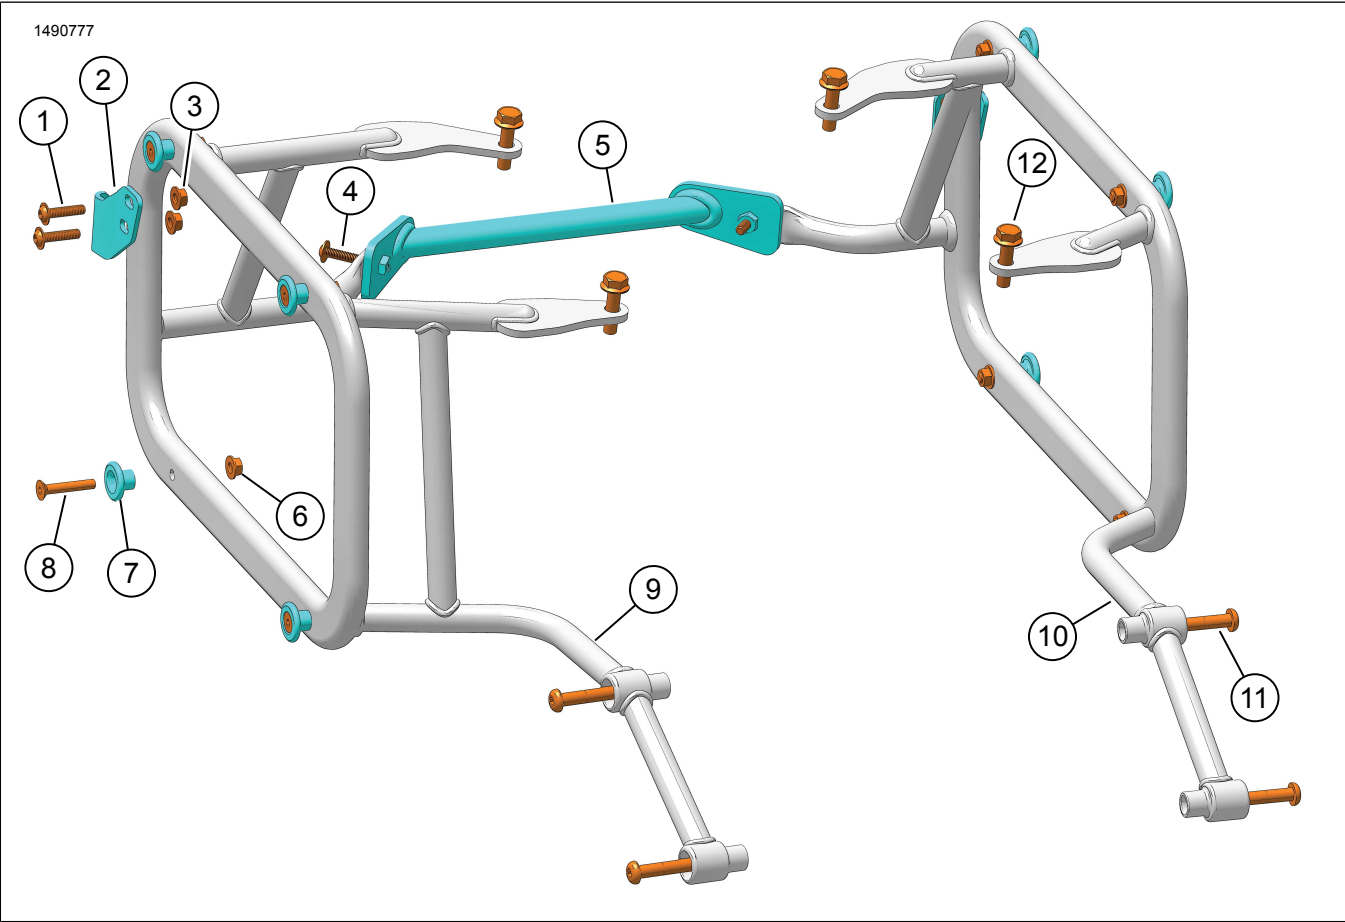

Figure 1. Kit Contents: Side Case Mounting
1. See Figure 1. Position latch bracket (2) to saddlebag support assembly (10, 11).
- a. Make sure latch bracket (2) is installed for the appropriate side.
2. Install screws (1) and nuts (3). Tighten.
1. See Figure 1. Position docking point (8) to saddlebag support assembly (10, 11).
2. Install screw (9) and nut (7). Tighten.